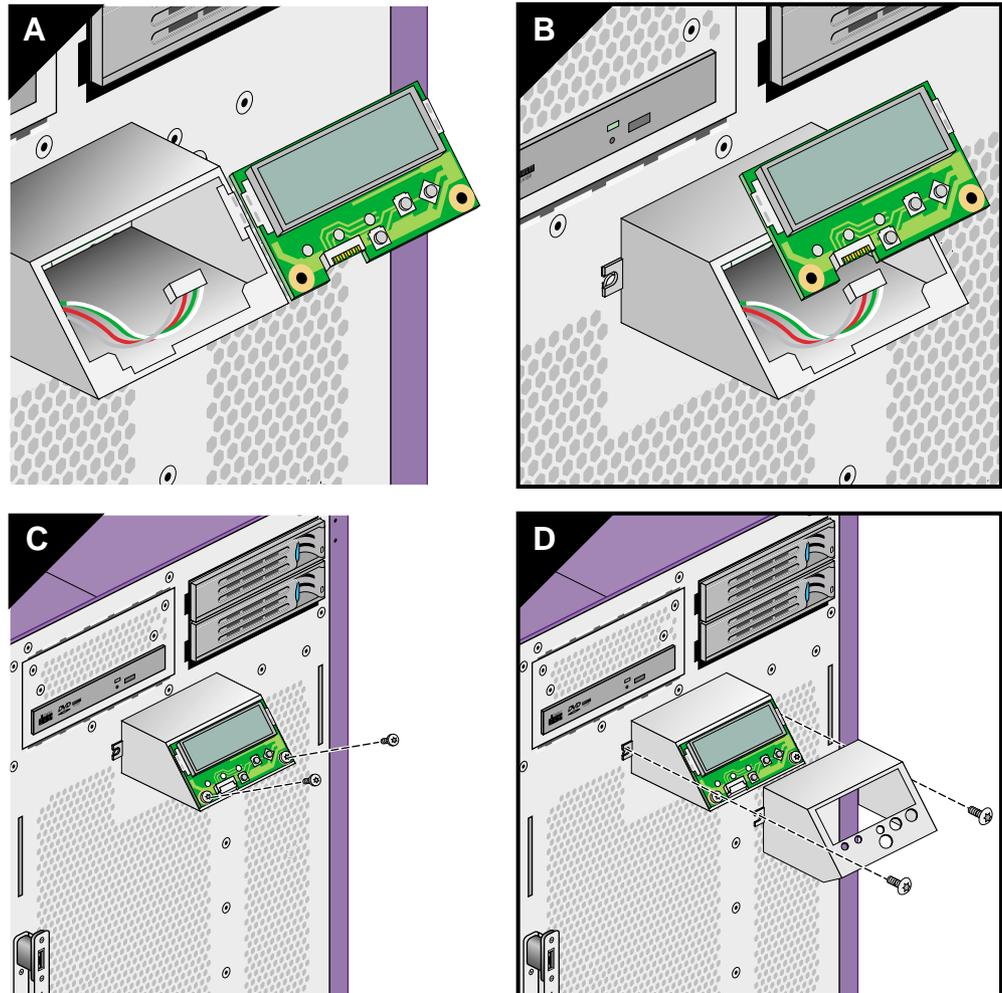

Figure 3-38 Installing the L1 Display Board
5. Connect the L1 display cable to the replacement L1 display board (see Figure 3-38).
6. Install the two screws that secure the L1 display board to its bracket (see Figure 3-38).
7. Align the hooks on the bracket with the holes in the enclosure. Insert the hooks into the holes, and then press down to seat the bracket on the front of the enclosure (see Figure 3-38).
- Slide the outside cover over the L1 display. Then install the two screws that secure the L1 display to the front of the enclosure (see Figure 3-38).